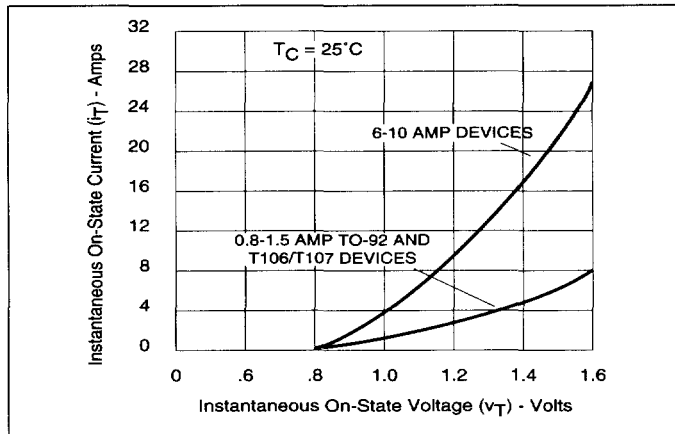

Figure 5.11 Instantaneous On-State Current vs On-State Voltage (Typical)
- See Figure 5.11 for instantaneous on-state current (i_T) vs on-state voltage (v_T) - (typical).